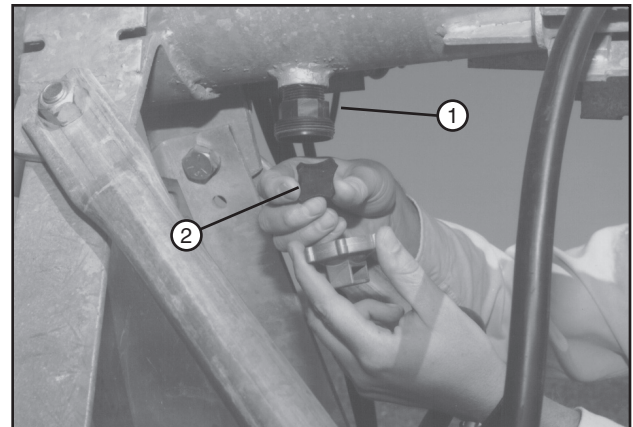

Figure 91-1 1. Pipe Drain
3. Remove the pipe drains at each drive unit tower. Clean sand and foreign particles from these drains. Turn the rubber drain seal over when reinstalling. See figure 91-1.